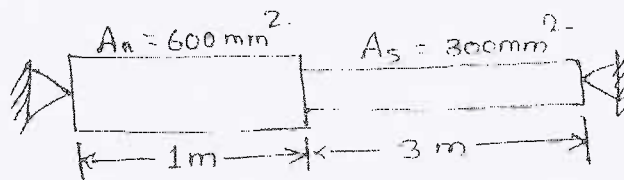

Fig. Q2 (c)
- c. A composite bar is rigidly fitted at the supports A and B as shown in Fig. Q2 (c). Determine the reactions at supports when temperature rises by 20°C . Take $E_a = 70 \text{ GN/m}^2$, $E_s = 200 \text{ GN/m}^2$, $\alpha_a = 11 \times 10^{-6} / ^\circ\text{C}$, $\alpha_s = 12 \times 10^{-6} / ^\circ\text{C}$ (10 Marks)